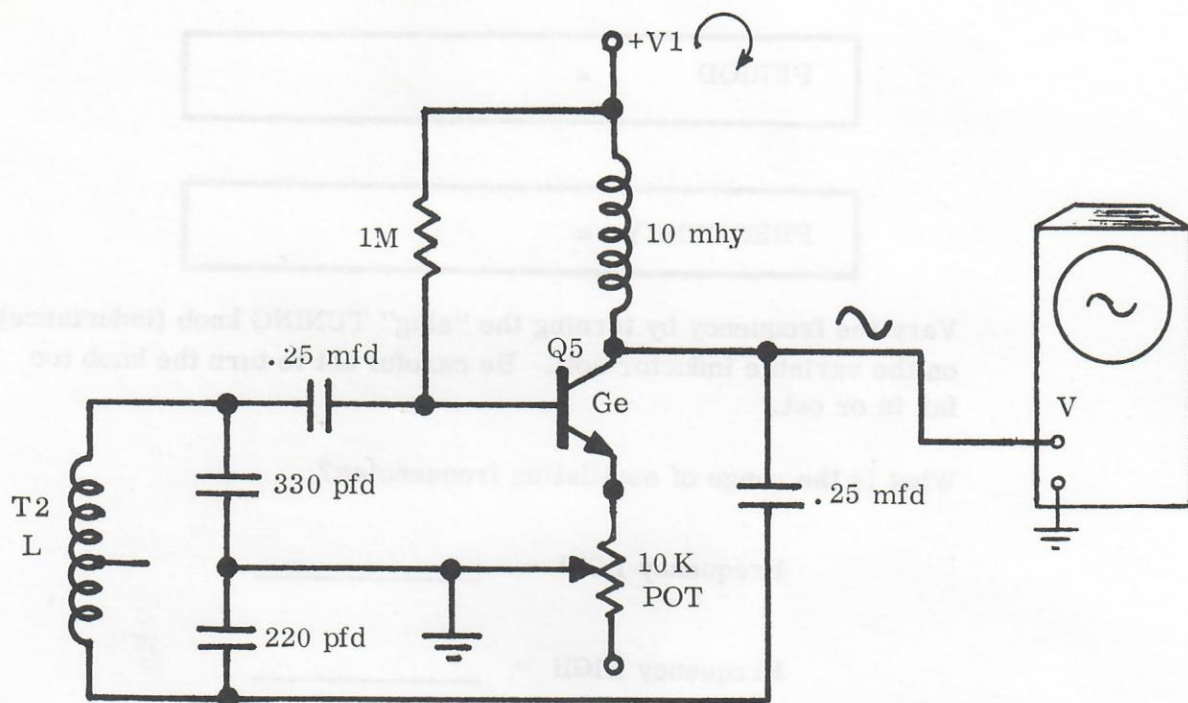

Figure 3 - 1 Colpitts Oscillator
The Colpitts Oscillator is similar to the Hartley Oscillator except that a single inductor is used in the Tank Circuit but two capacitors are used "as a split-capacitor" for the "feedback" as shown in Figure 3 - 1 above. The 1 MEGOHM resistor is used for bias in this germanium transistor circuit. The two 0.25 mfd capacitors are A.C. Coupling capacitors. The 10K POT adjusts the emitter feedback and the gain.
1. Wire the circuit in Figure 3 - 1.